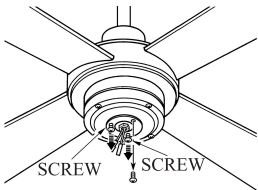

FIG.12
1. Remove two screws of 3 on light kit adapter and loosen the last screws. (see Fig.12)